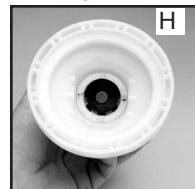

Figure 5.
6. The valve assy. (H) is removed using a locally made tool. Remove red valve plate retaining pin using needle nose pliers, then insert tool into slots. See Figure 5. Use a screwdriver to rotate tool counter clockwise.